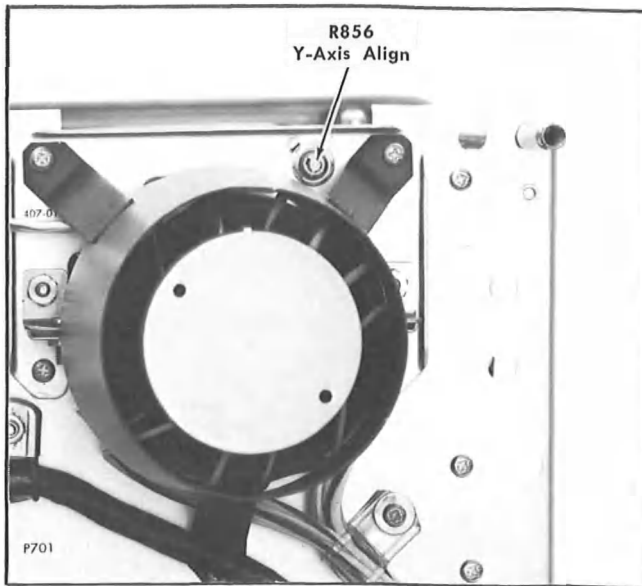

Fig. 5-10. Location of Y Axis Align adjustment (rear panel).
- f. ADJUST—Y Axis Align adjustment R856 (see Fig. 5-10) so the markers are parallel to the center vertical line.